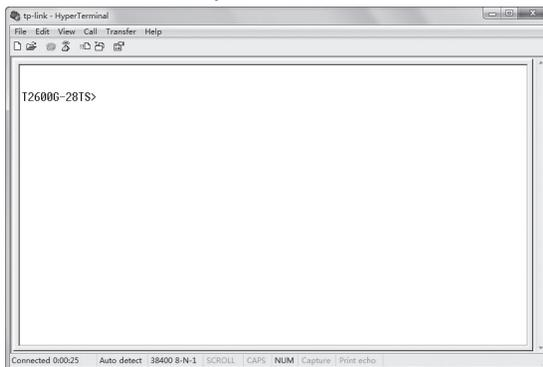

Figure 5-4 Log in the Switch
5. The DOS prompt "T2600G-28TS>" will appear after pressing the Enter button as Figure 5-4 shows. It indicates that you can use the CLI now.